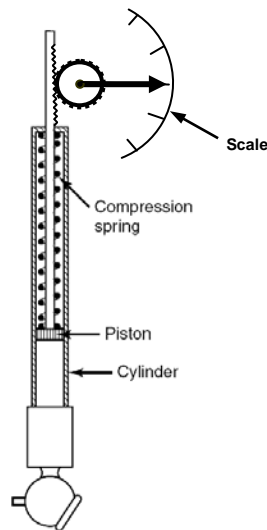

Figure Q1[b]
- [b] Figure Q1[b] shows a tire pressure gage modified to improve the sensitivity. Identify the three stages of measurement system in the device shown. Illustrate with a block diagram.**